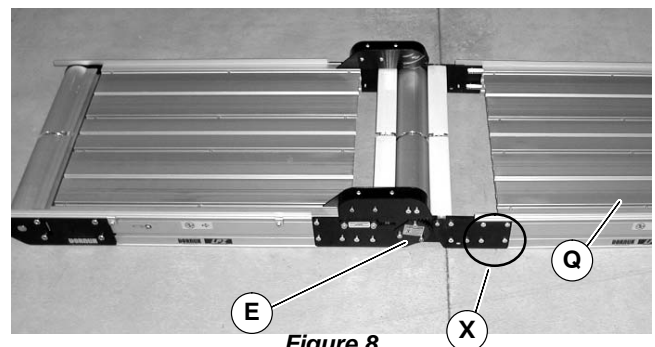

Figure 8
4. Slide frame (Q of Figure 8) into lower knuckle (E). Tighten screws (X) to 60 in-lb (7 N-m) on both sides of conveyor.